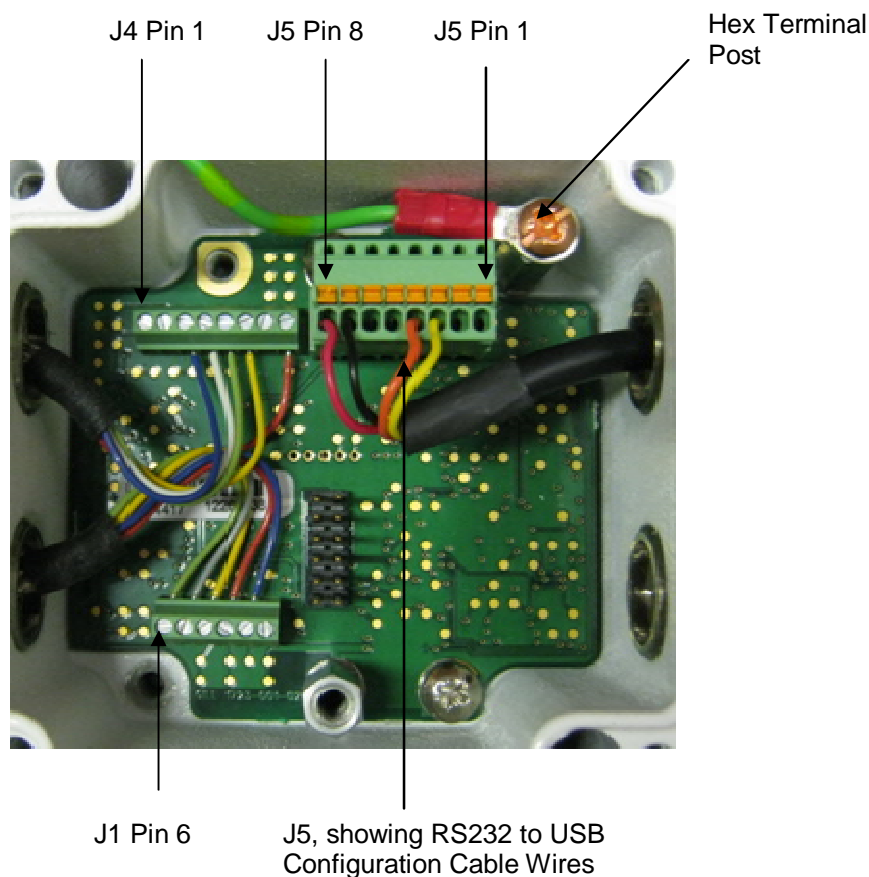

Figure 3
2. Locate connector J5 (see Figure 3). Carefully pull the connector off its circuit board pins.
6. Attach the cable's screen wires to the terminal post (see Figure 3).